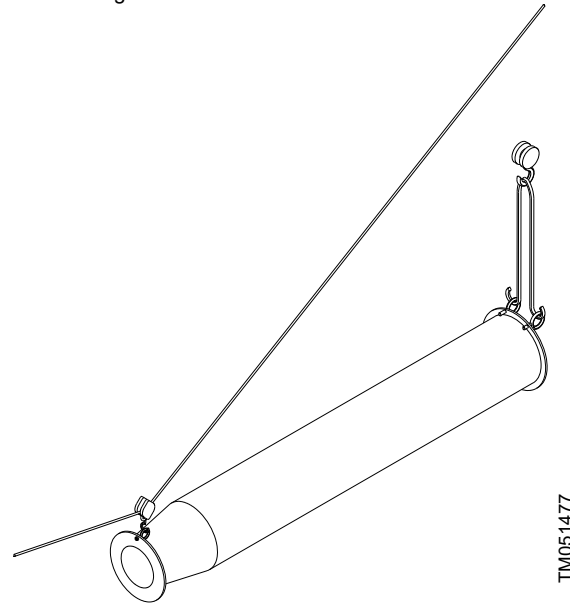

Fig. 10 Column section with dragline attached
9. Connect a dragline to the lower end of the column flange, to be used in guiding and aligning the column over the shaft. See fig. 10. The use of the dragline will prevent accidental bumping of the shaft by the column that could bend the shaft.